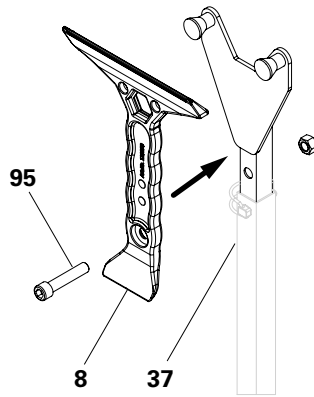

Fig. E1.05
- To fulfil the surface requirements, these can be exchanged. (Fig. E1.05)